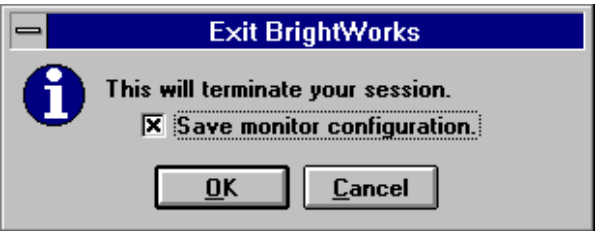

Figure 3-1: BrightWorks' Exit Prompt
- **[DisableExitPrompt]** - This section can be manually added to the INI file in order to disable the prompt which displays upon exiting BrightWorks. This prompt allows you to save the configuration of any open metering windows. (Refer to Figure 3-1 in the section above entitled “Exiting BrightWorks.”) To disable the exit prompt, add the following section to the BWORKS.INI file: